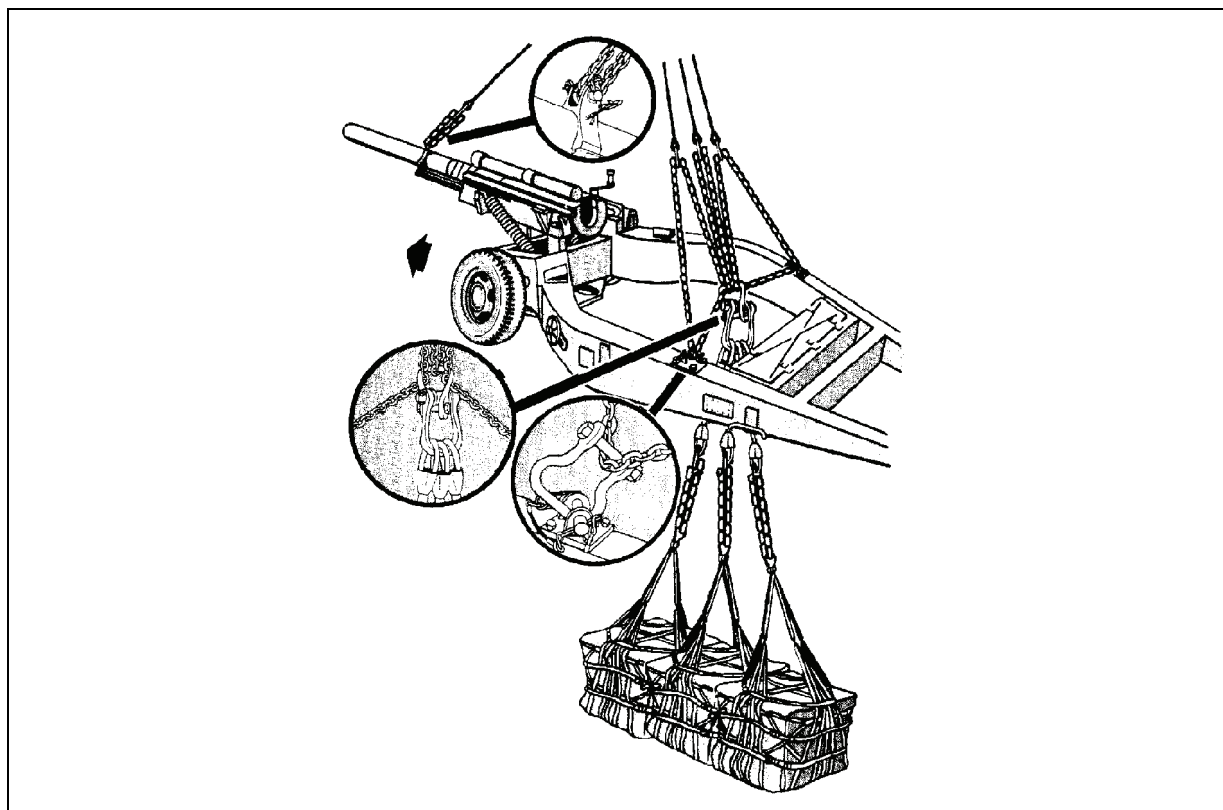

Figure 6-4. M102 105-MM Howitzer with Two or Three A-22 Cargo Bags
- **Rigging.** Rig the load according to the steps in Figure 6-4.